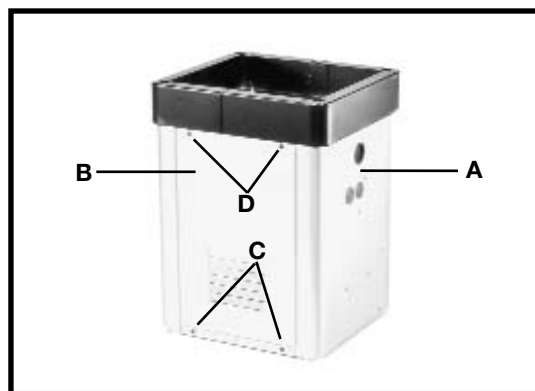

Fig. 4
1. Remove the stand (A) Fig. 4 from the shipping container. Be careful not to crimp the switch cord that extends through the top of the stand. **NOTE:** Set the stand on several blocks of wood to raise the stand off the floor.
2. Take the panel (B) Fig. 4 off of the stand (A) by removing two screws (C) and loosening the two other screws (D). Remove the panel on the opposite side of the stand in the same way.